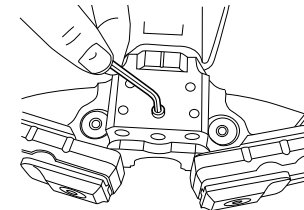

Figure 4
- 13 Loosen the riser assembly bolt locking set screw located on the underside of the riser using a 1/8" or 3mm. allen wrench (See Figure 4).